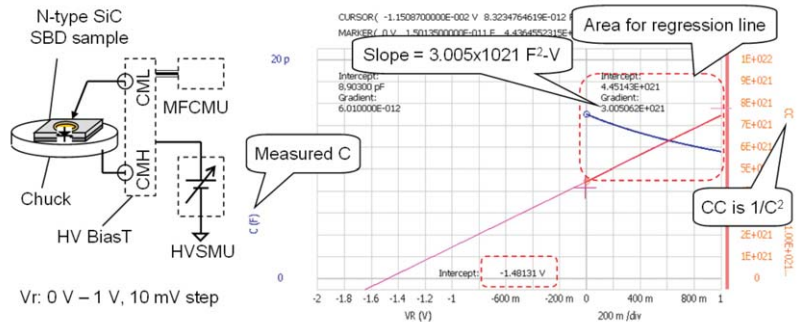

Figure 24. Low-voltage reverse-bias capacitance-voltage (CV) characteristic of 4H-SiC SBD
Figure 24 shows sample CV measurement data for the same 4H-SiC SBD that was analyzed in the previous subsection. Since this is an n-type SBD, the CMH and CML terminals of the high-voltage bias-T are connected to the prober chuck and probe tip, respectively. The bias voltage is swept from zero to 1 V with 10 mV steps, and the measured capacitance C (Cp-G mode) is plotted on the Y1 (left) axis. A user function (CC) is created to calculate $1/C^2$ on the Function Setup page, and this is plotted on the Y2 (right) axis. As can be seen, the $1/C^2$ plot is linear versus applied voltage, and you can calculate the built-in potential V_{bi} by using the following equation: